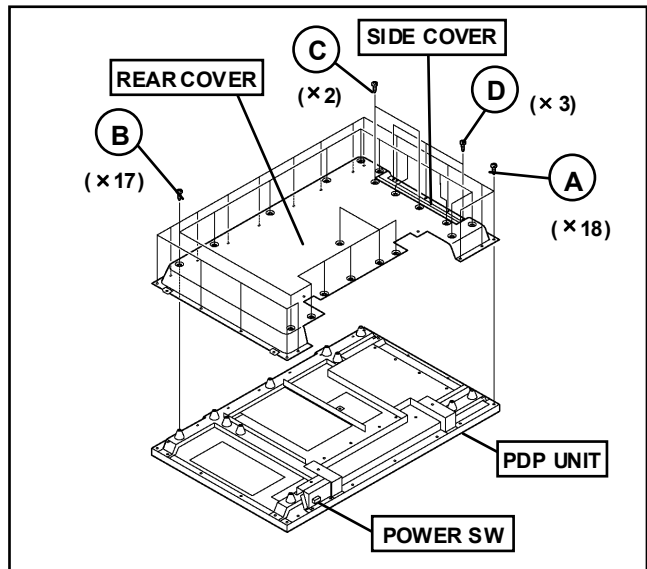

Fig.1
- 1. Remove the 18 screws marked **A** as shown in Fig.1.
- 2. Remove the 17 screws marked **B** as shown in Fig.1.
- 3. Remove the 2 screws marked **C** as shown in Fig.1.
- 4. Remove the 3 screws marked **D** as shown in Fig.1.